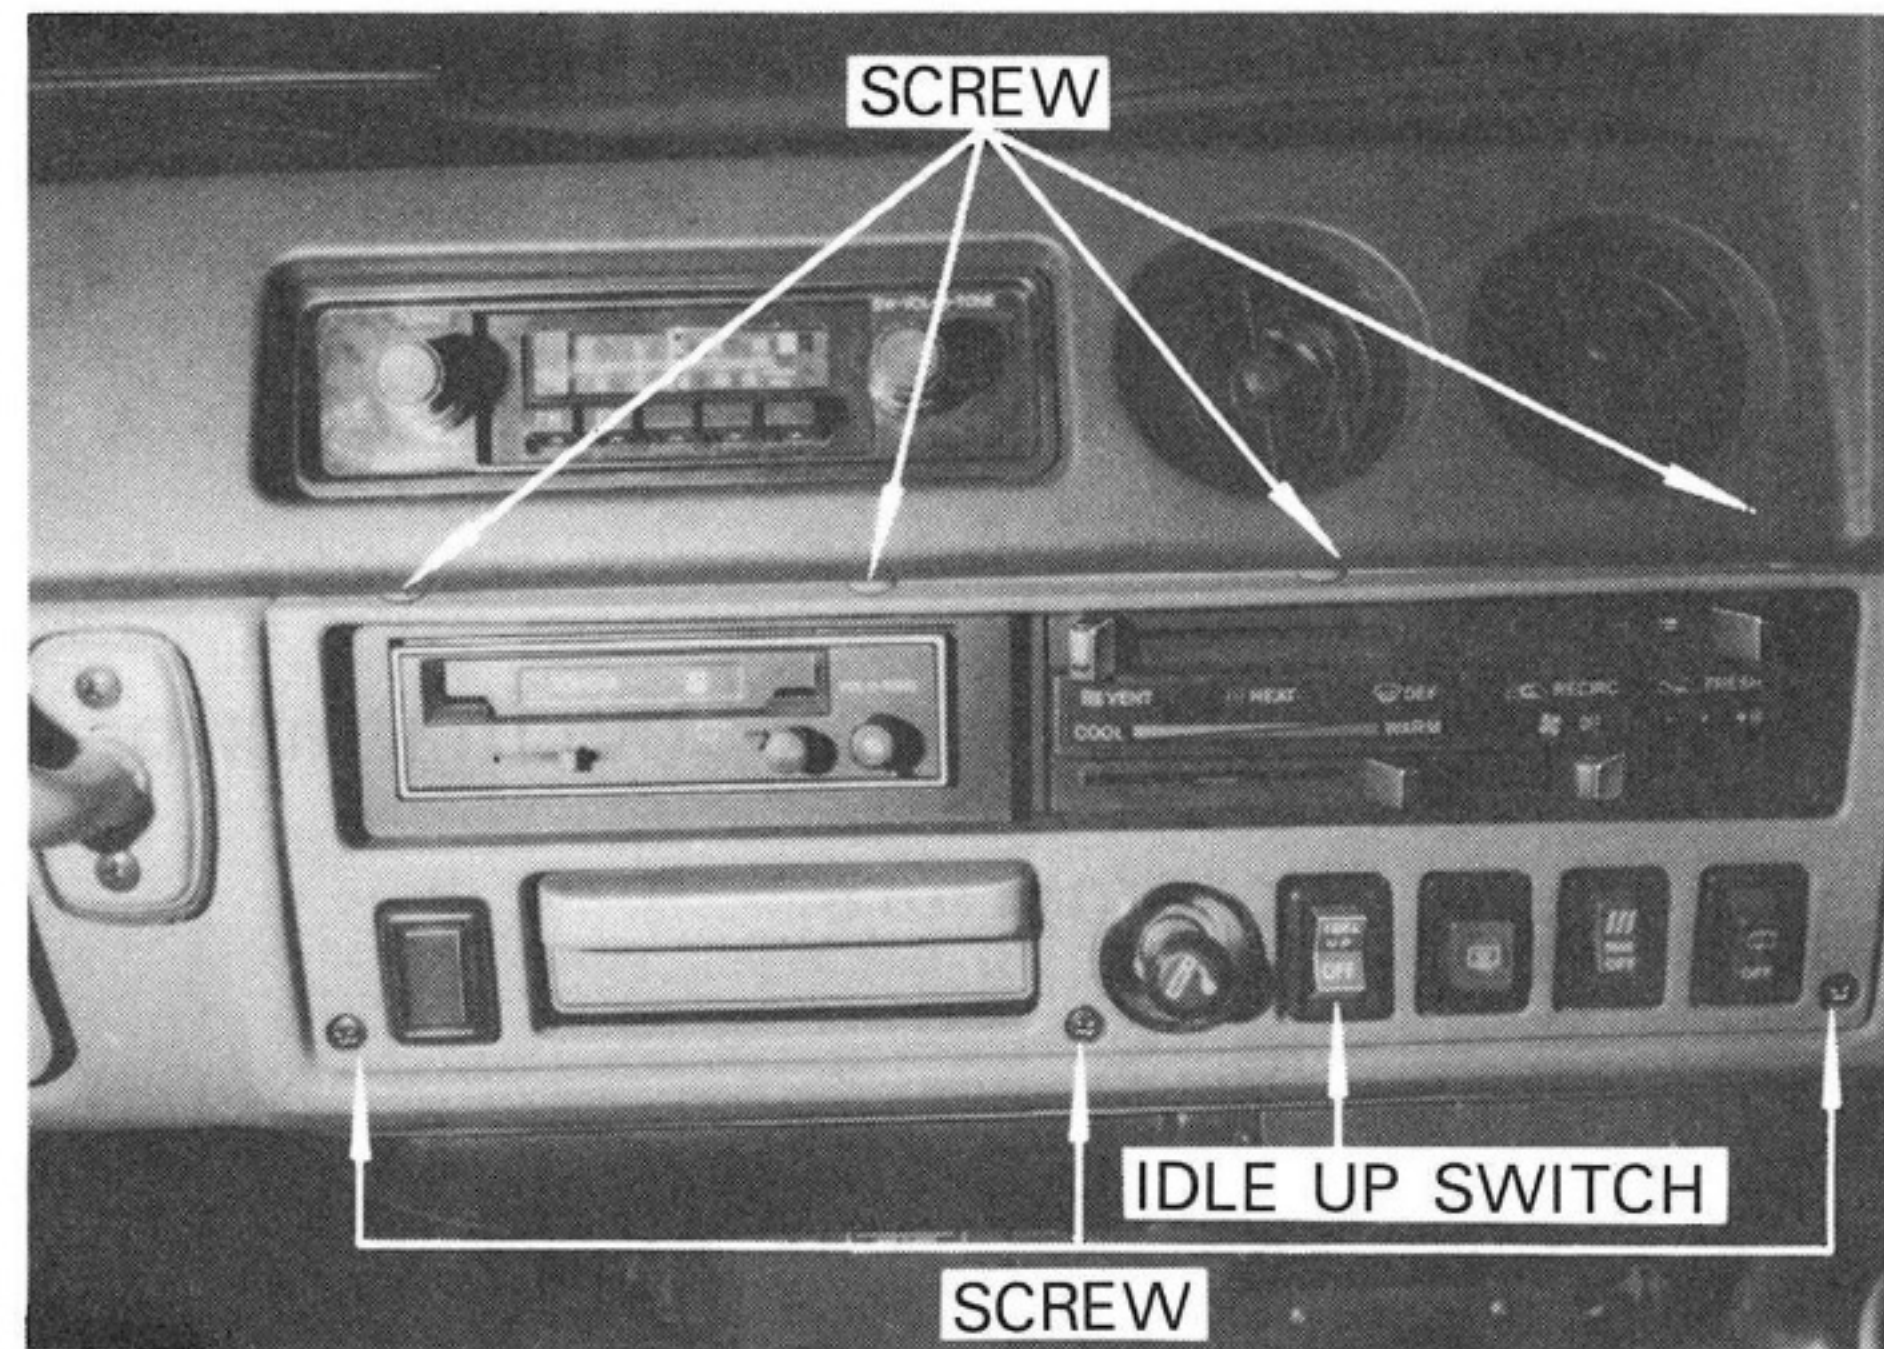
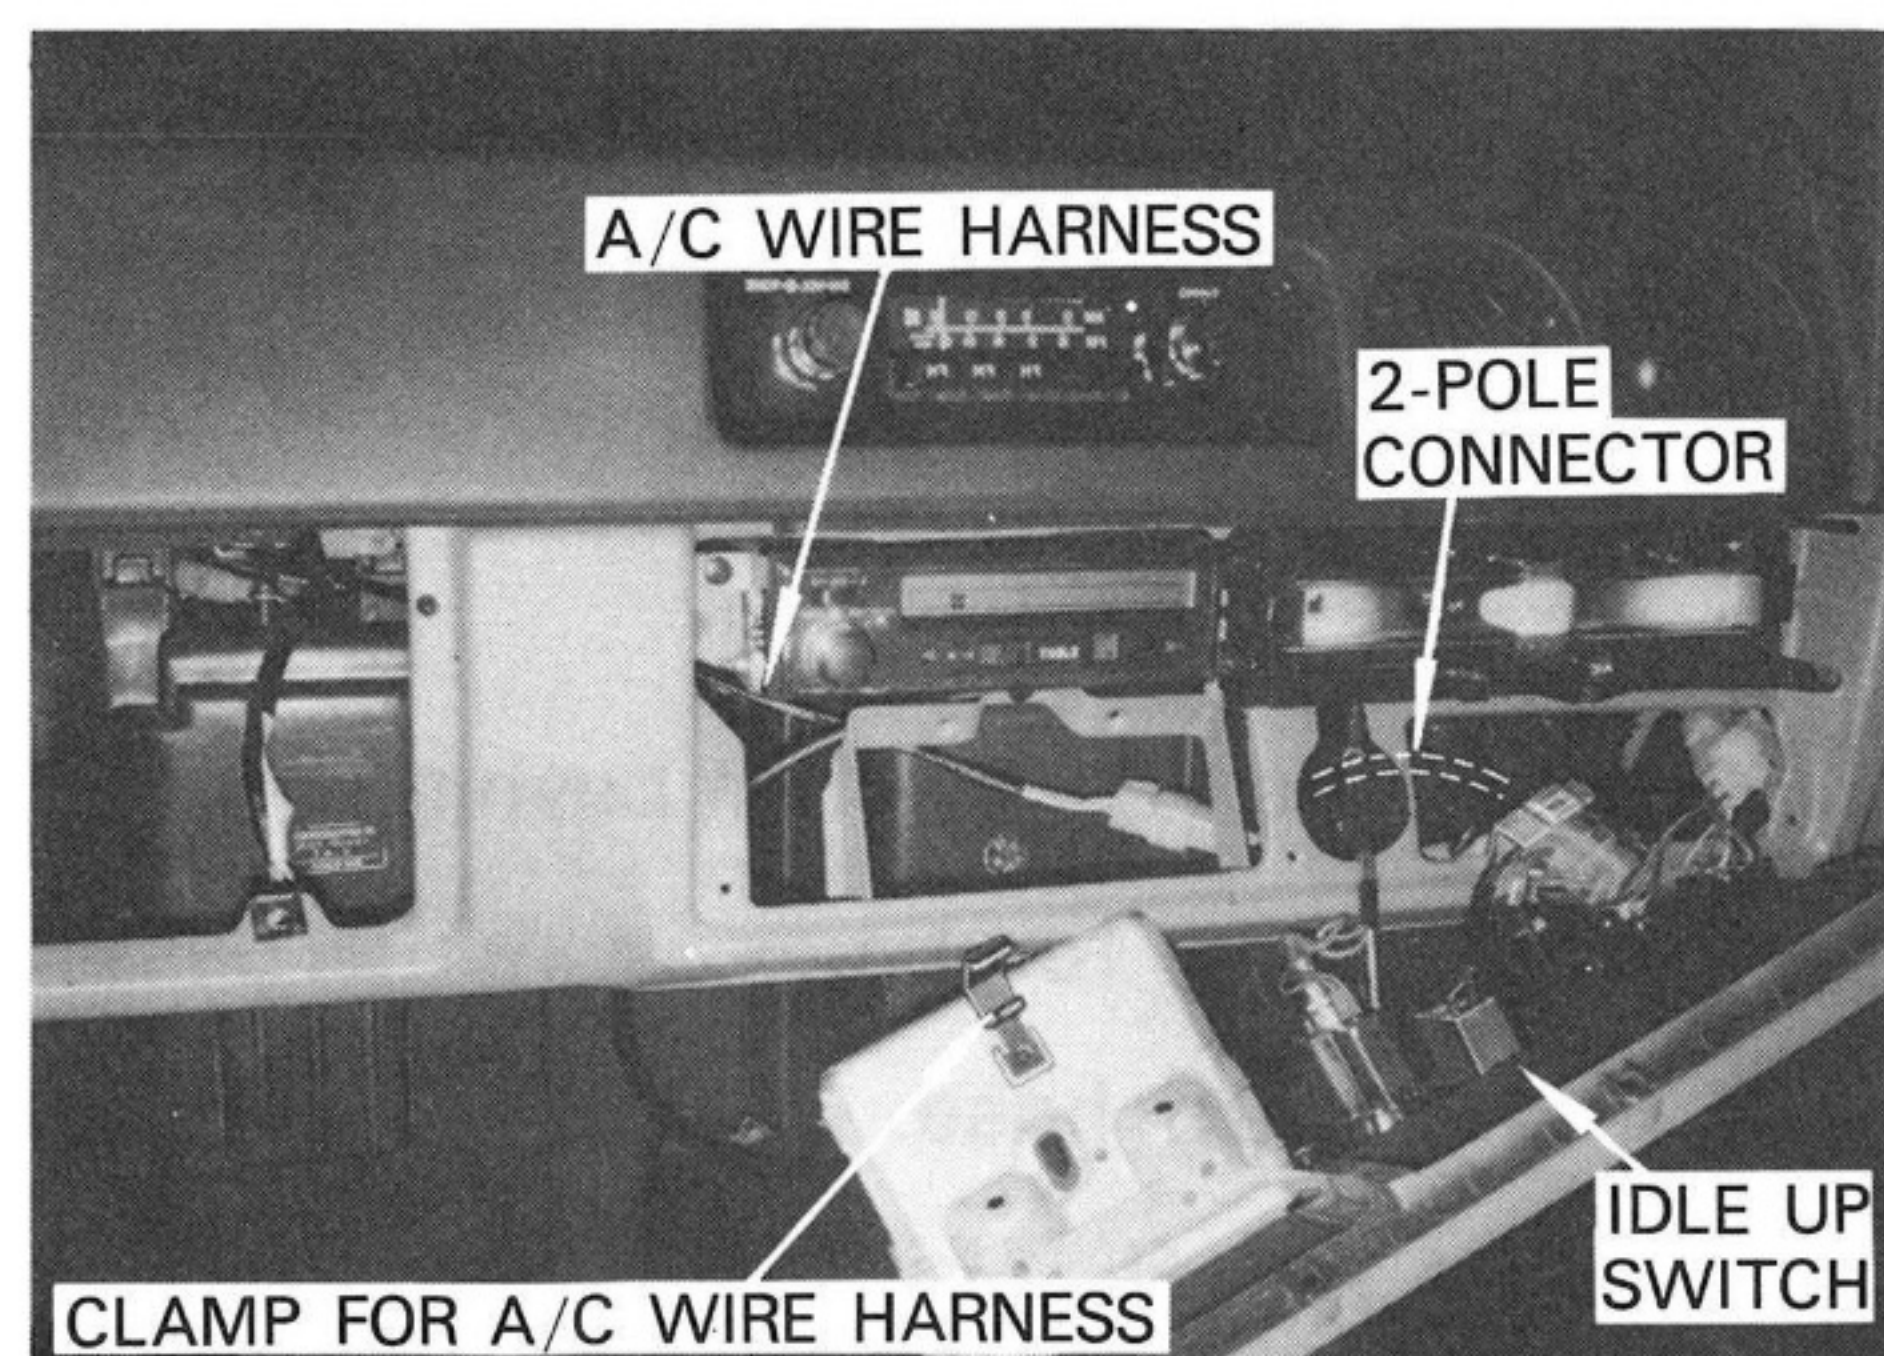

Fig. 9
Fig. 12
See Fig. 9.
B) Remove the A/C control panel and install the A/C switch using a tapping screw as shown in Fig. 9.
See Fig. 9 and Fig. 12.
E) Connect the 3-pole and 2-pole connector of A/C wire harness to the A/C switch and the A/C idle up switch. See Fig. 12.